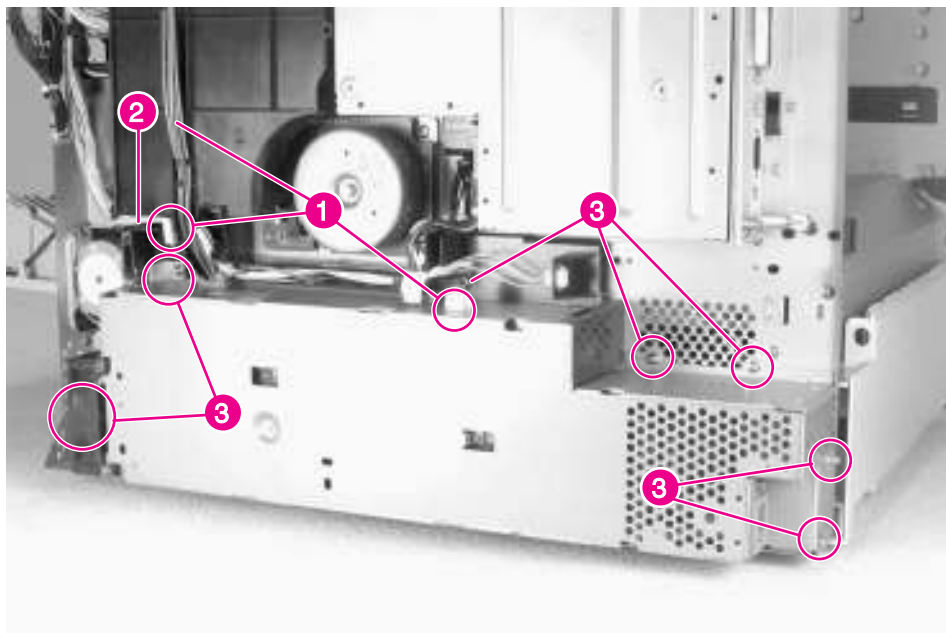

Figure 6-50 **Low Voltage Power Supply**
- Low Voltage Power Supply (LVPS) (see figure 6-50)
- 4 Unplug 3 LVPS connectors (figure 6-50, callout 1).
- 5 Unplug the LVPS fan (FM1) cable from the DC Controller (figure 6-50, callout 2).
- 6 Remove 7 screws (figure 6-50, callout 3).